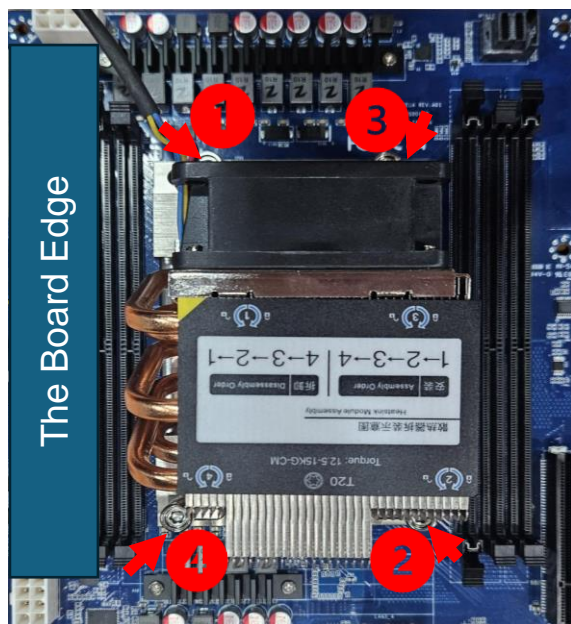

Figure 11
B. Use the T20 screwdriver to tighten 4 Heatsink nuts in sequence as 1 to 4. (Figure 11)
- For the first time securing the CPU Cooler, tighten it in sequences 1 to 4 using a screwdriver as Figure 11. Apply downward pressure for about 1–2 seconds, then stop tightening.